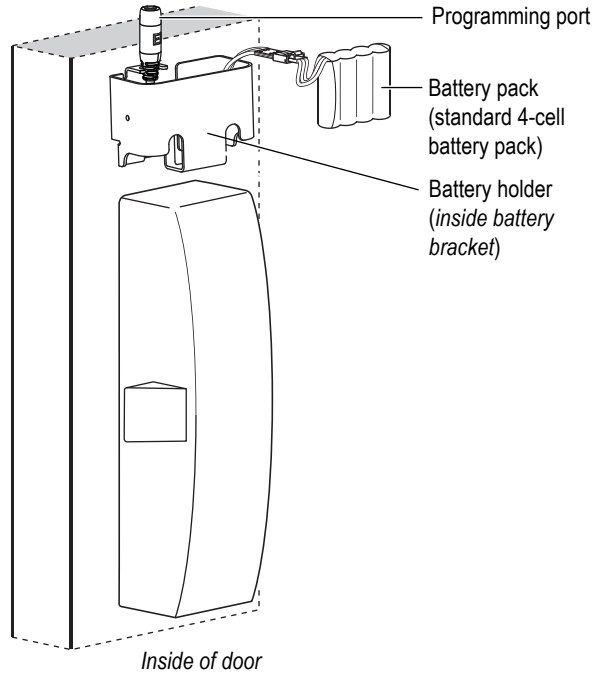

Figure 18 Connecting the battery pack (Offline G/V Series shown)
- 1 Connect the battery pack to the battery connector on the wire harness as shown in Figure 18.